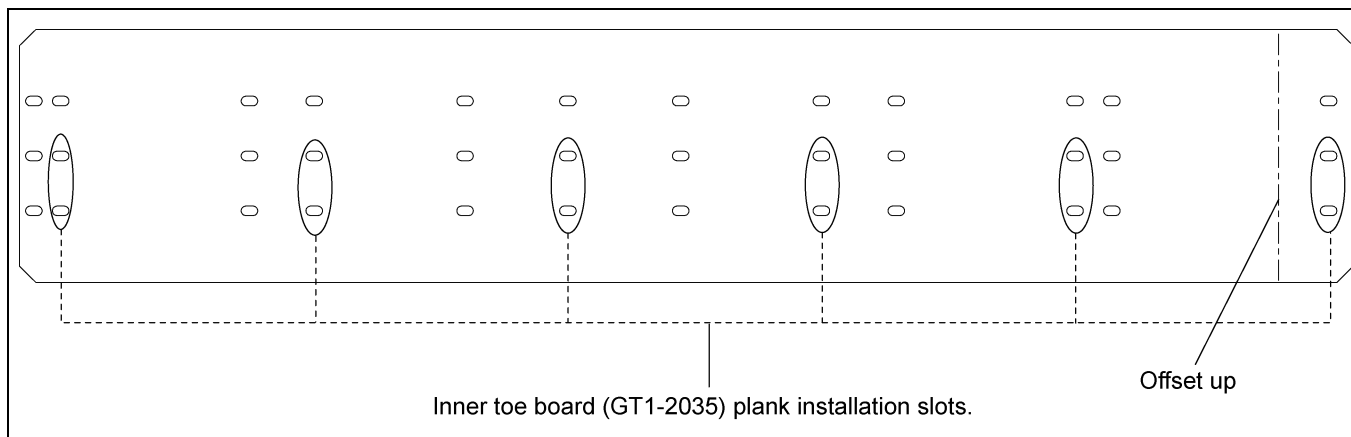

Figure 6N 18' Inner Toe Board (GT1-2035)
2. Inner toe board (GT1-2035) is arranged with many slots to install plank. Install offset and roof hatch planks to corresponding slots as shown in Figure 6N.